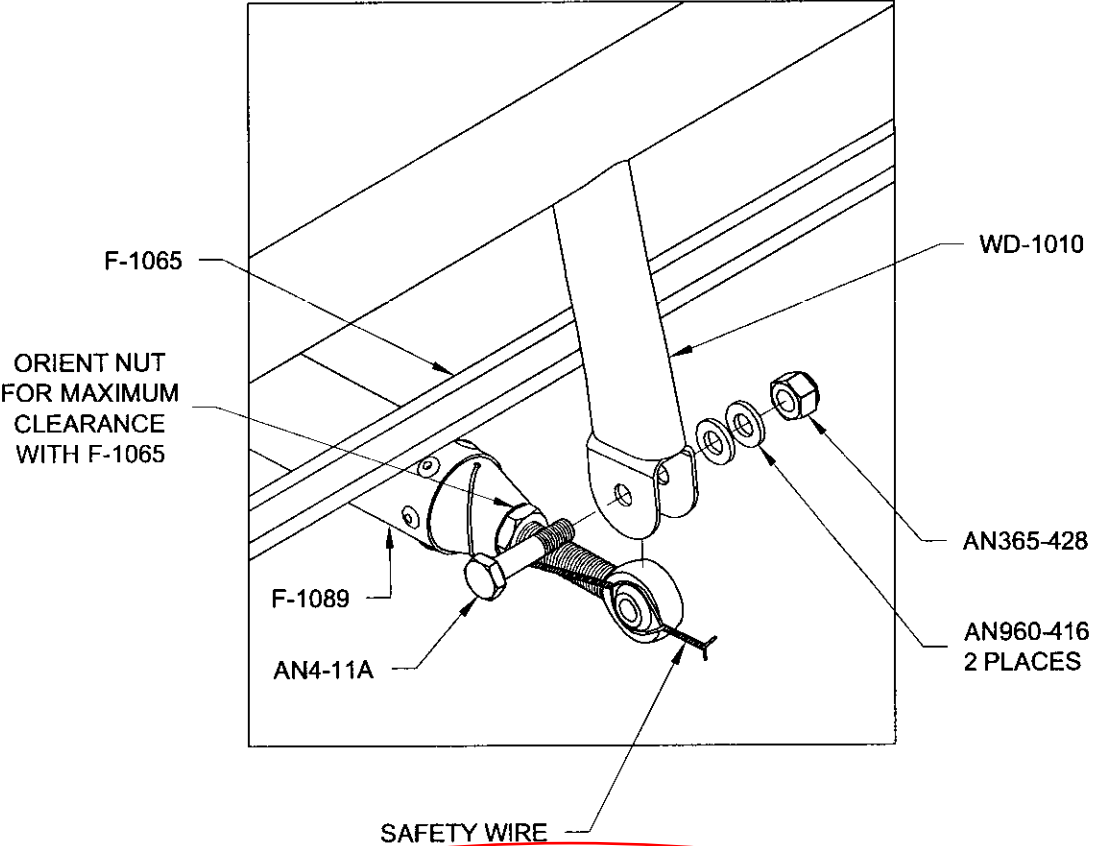

FIGURE 3: ELEVATOR PUSHROD (FWD) INSTALLATION
Step 3: Bolt the F-1089 Elevator Pushrod Assembly to the WD-1010 Control Column using the hardware shown in Figure 3. The loop in the safety wire goes around the bearing, passing between the rod end housing and the WD-1010 Control Column clevis and is captured by the AN4 bolt as shown in Figure 3. The safety wire should not interfere with anything at this connection.